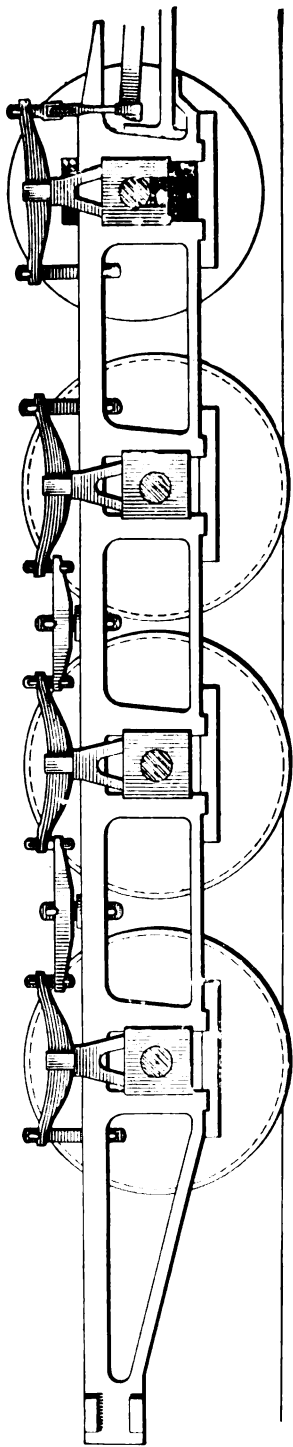

FIG. 53.
**121.** When the tire on a front driver of a consolidation engine breaks, if no other damage is done, run that wheel up on a wedge about the height of the tire, and fit one block in place of the cellar and another below the driving box, as shown in Fig. 53. Then block between the top of the frame and the spring saddle in order to relieve that driving box of the weight it carried. This method of blocking will permit of the use of all springs.